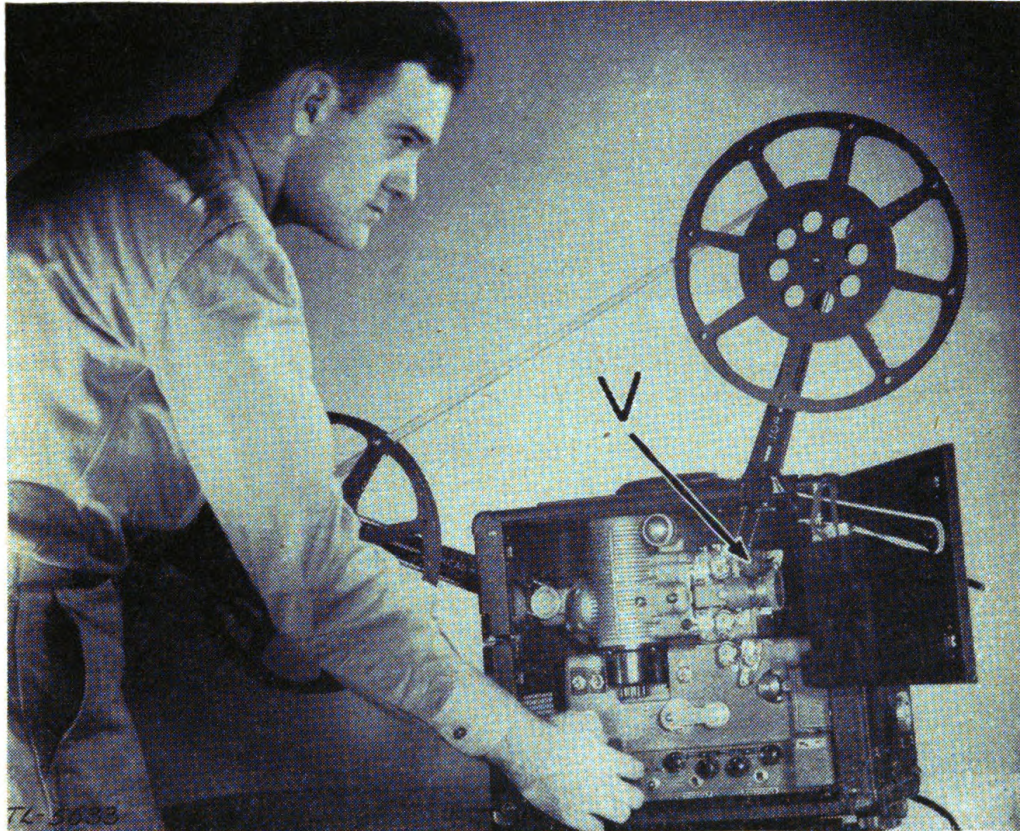

FIGURE 22.—Rewinding the Bell & Howell projector.
(3) *Bell & Howell*.—To rewind the Bell & Howell projector, change reels, loop the free end of the film around the empty reel, shift the clutch lever *V*, and start projector motor. (See fig. 22.)